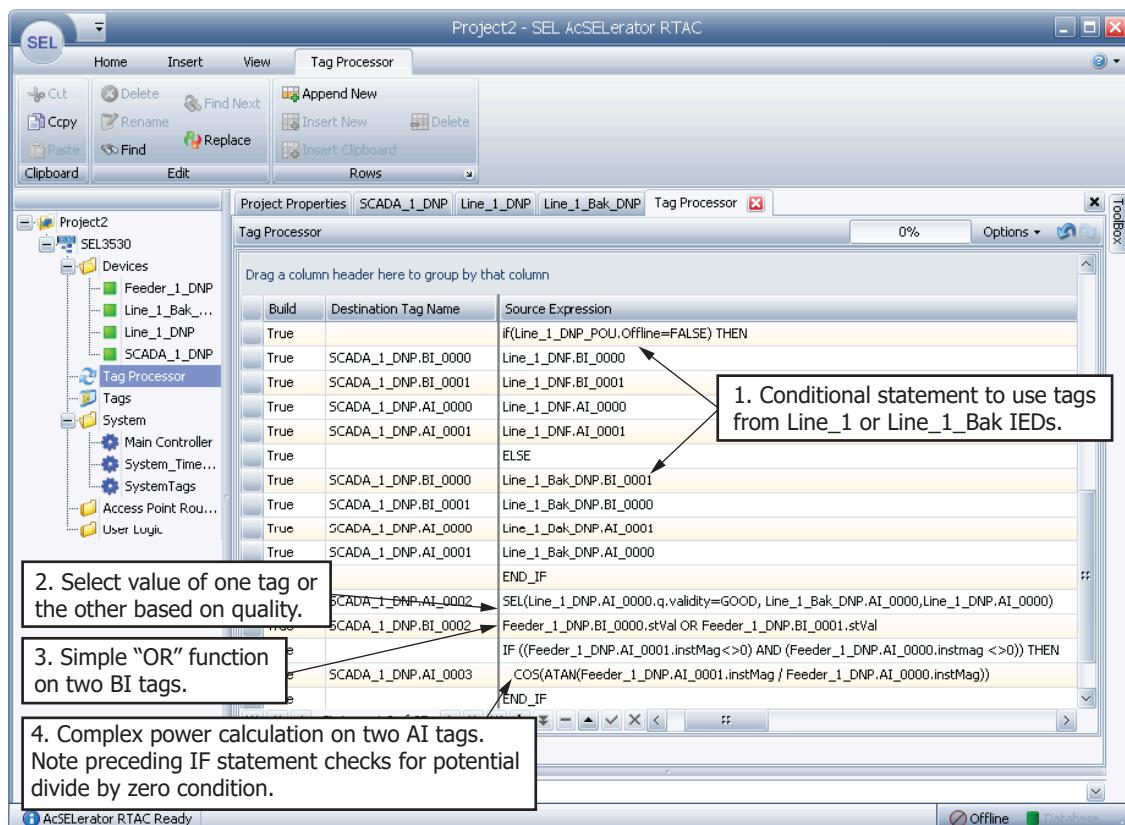

Figure 3.8 IEC 61131-3 Logic in Tag Processor
Step 8. Type in or copy/paste the tags from Feeder_1, Line_1, and Line_1_Bak to the Tag Processor, as shown in Figure 3.8.
Step 9. Type in or copy/paste the tags from SCADA_1 to the Tag Processor, as shown in Figure 3.8.
The following describes the specific syntax of the embedded IEC 61131-3 structured text in *Figure 3.8*: